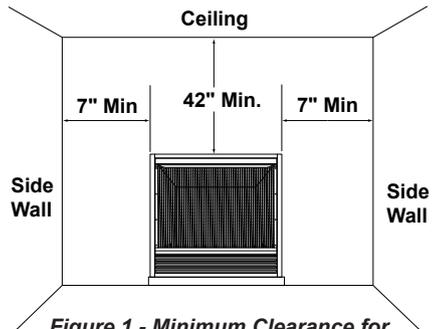

Figure 1 - Minimum Clearance for Combustible to Wall and Ceiling
**IMPORTANT:** You must maintain minimum wall and ceiling clearances during installation. The minimum clearances are shown in Figure 1. Measure from outermost point of fireplace.